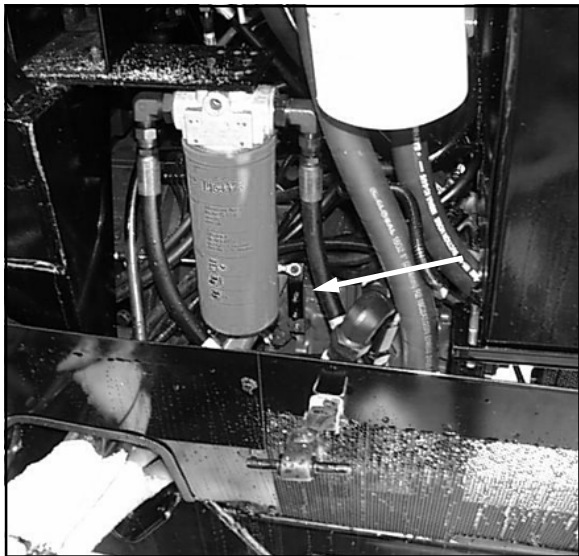

FIG 74-1
**NEUTRAL SETTING** - When the hydrostatic lever is in the neutral position, the machine should not be moving in either direction. If it does, the neutral setting of the hydrostatic pump lever below the hydraulic suction filter (fig. 74-1) needs to be adjusted.